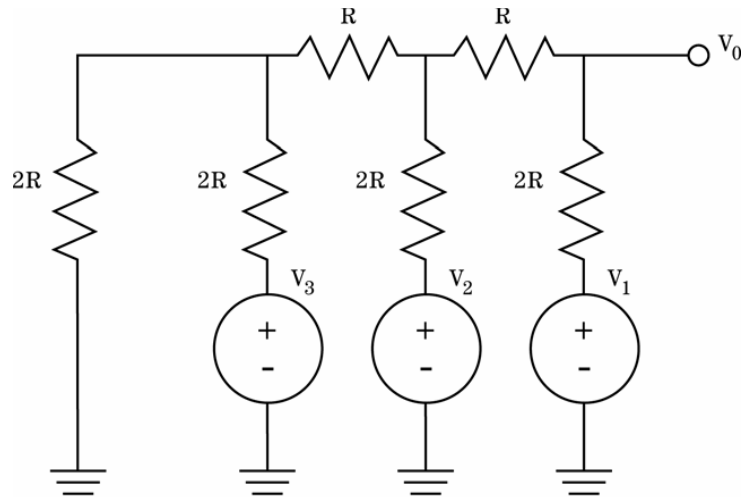
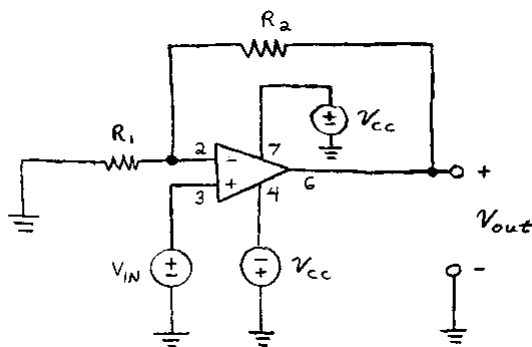

Figure 1
Figure 2 – Non-inverting Amplifier (LM 741)
You will implement this using an R-2R ladder circuit. A schematic of the circuit is given in Figure 1 below.
In the Notes section of this lab handout, provide a detailed circuit analysis that shows that the Thevenin equivalent of the circuit of Figure 1, defined at V_0 is defined as:
Let the resistance, R , in Figure 1 equal $5k\Omega$. In this lab, you will design an op-amp interface, attached to the output of the circuit that will properly scale the signal voltage to the octal voltage value associated with the binary input from $(V_1 V_2 V_3)$. Your results will be recorded in Table 1 below.
1. Calculate the output voltage V_0 of the circuit in Figure 1 based on the Thevenin Equivalent given in Equation 1. Record your answers in column 5 in Table 1.
2. Build the circuit in Figure 1 and measure V_0 for every possibility given in Table 1.
- Design and build an op-amp circuit to produce the required output voltage (output values should be 0,1,2,3,...,7). If you recall, the diagram for a non-inverting op-amp is given in Figure 2 below. Show all your calculations for designing the op-amp circuit. Be sure to use large enough resistors for R_1 and R_2 so that your circuit doesn't produce too much current ($R_i > 1k\Omega$). Select proper values for $\pm V_{cc}$ so that saturation does not occur.
- Build the circuit and connect the output (V_0) of your ladder circuit in Figure 1 to the input of your op-amp circuit in Figure 2. V_{in} of your op-amp circuit should be replaced by V_0 of your ladder circuit